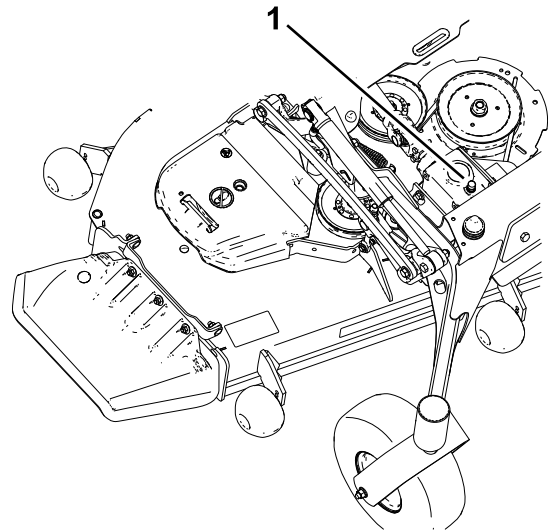

Figure 82
5. Remove the dipstick/fill plug from the top of the gearbox and ensure that the lubricant is between the marks on the dipstick (Figure 82).